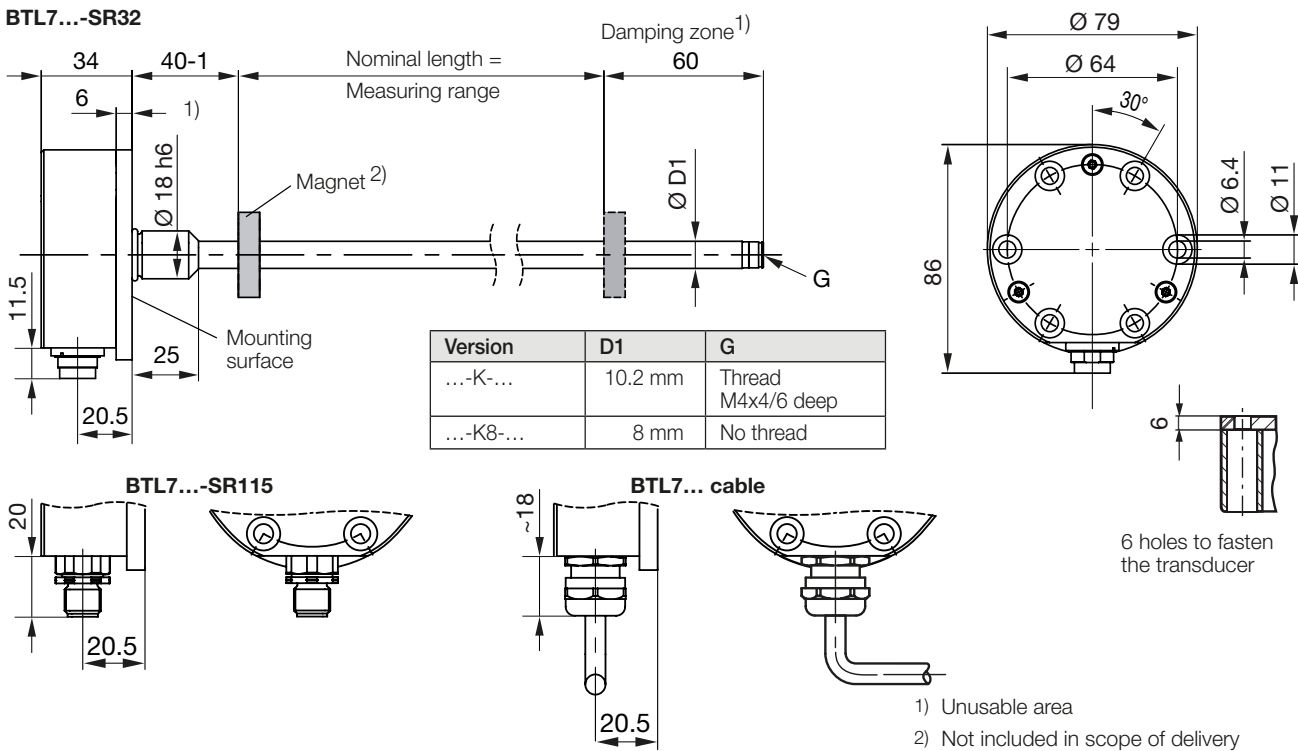

Fig. 3-1: BTL7-...-K(8)-... transducer, construction and function
**Fastening:** For secure fastening, tighten the transducer with cylinder screws (ISO 4762, M6 × 16 - A2-70) at all 6 mounting holes (see Fig. 3-1). All screws must be tightened with 3.5 Nm.